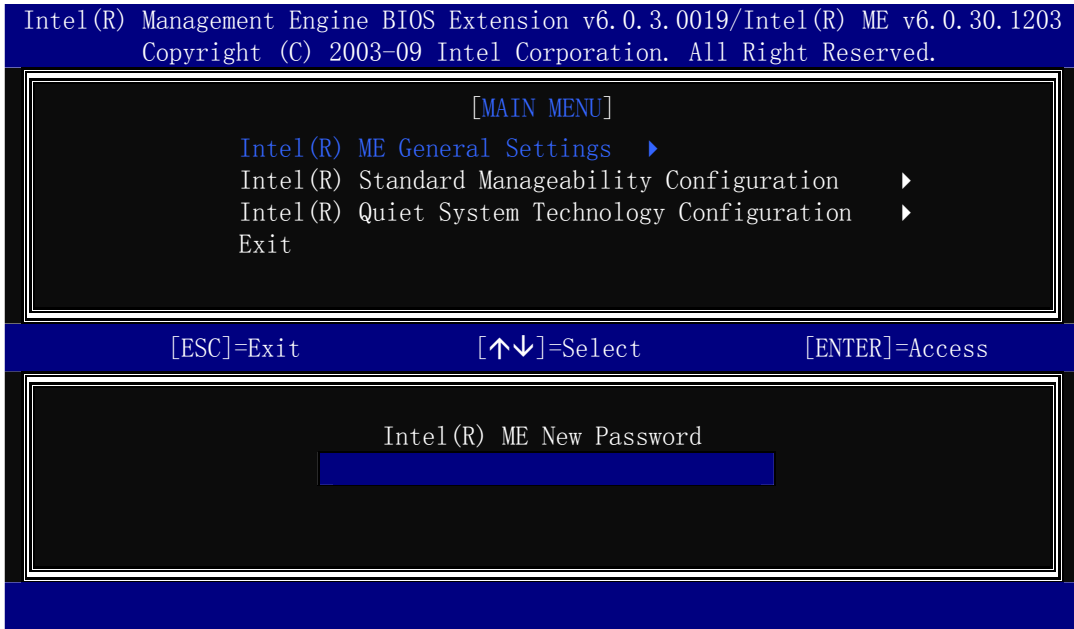

Figure A-3: Intel® ME New Password
Step 3: Please change default password before continuing (**Figure A-3**). Intel® ME passwords must be between 8 and 32 characters long, have at least one upper case character, one lower case character, one number, and a special character (for example: !, @, #, \$, %, ^, &, *). The legal password could be **iEi123@#**